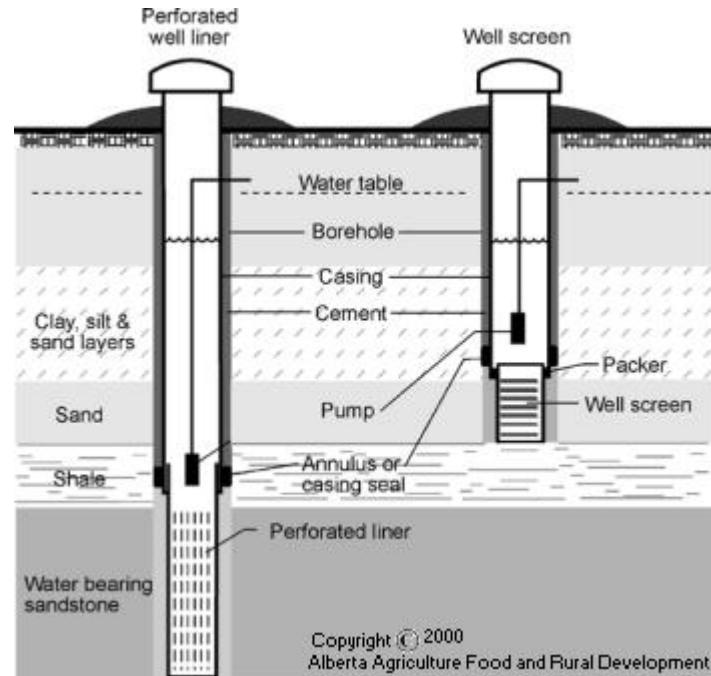

Figure 1: Perforated Well Liner and Well Screen
- Perforated well casing/liner vs. well screen (see Figure 1, Perforated Well Liner and Well Screen)